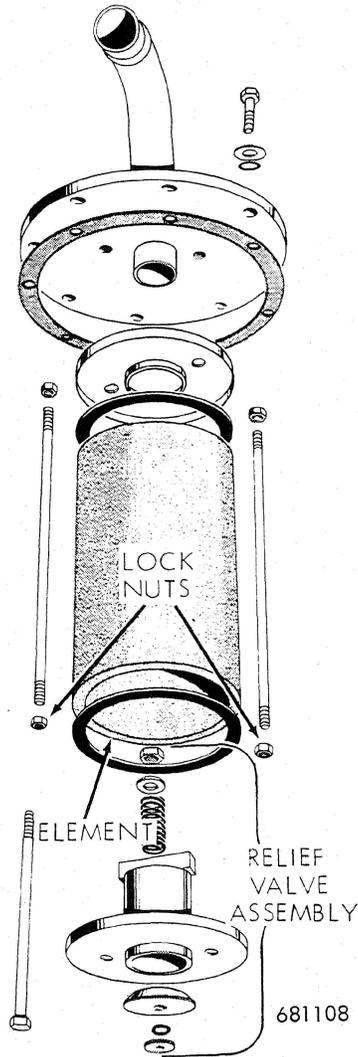

Figure 9
4. Remove the cover and inlet filter assembly from the reservoir. Then remove the inlet filter from the cover and discard the element. Refer to Figure 9.